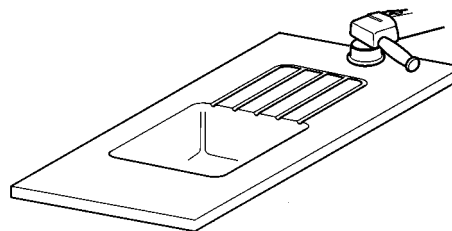

Figure 39
3. Use a random orbital sander and a Scotch-Brite® pad to finish-sand (see Figure 39).